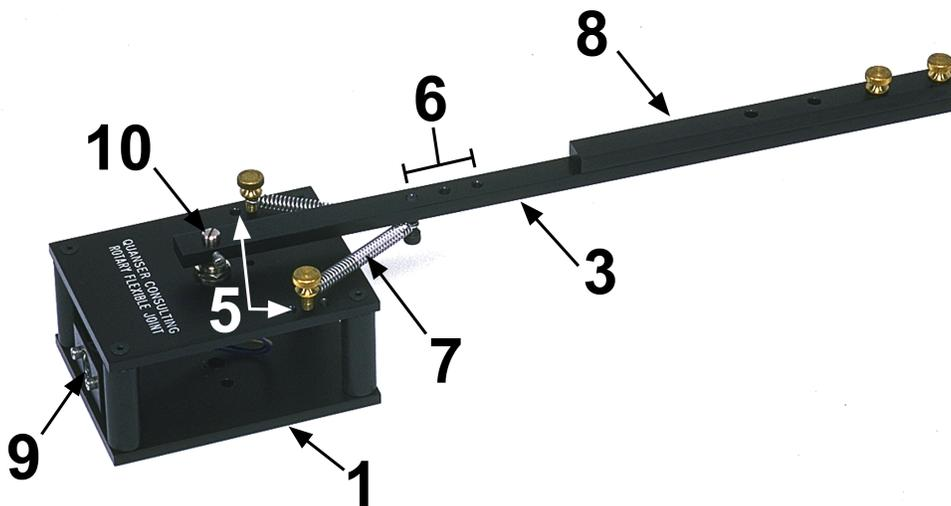

Figure 2.1: ROTFLEX top view
The components of the Rotary Flexible Joint module are listed in Table 2.1 below and labeled in Figure 2.1.
1. Take both springs (make sure they are of the same pair) and insert the thumbscrew through the ends of both springs. Screw the thumbscrew into the desired point on the anchor arm (ID #6) in Figure 2.1.
2. Turn the arm towards you and screw in one side's thumbscrew into the desired base anchor point (ID #5) in Figure 2.1.
2. Rotate the ROTFLEX arm, component #3 in Figure 2.1, slightly back-and-forth and verify that you are obtaining a reading.